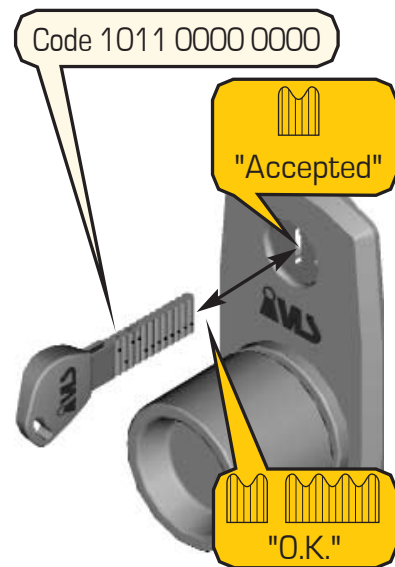

Figure 30 –
2. In order to unblock the operation code No. 2, set the unblocking code 1011 0000 0000 on the key (fig. 30).